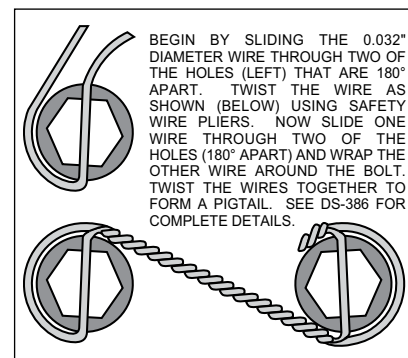

Figure 3. Safety Wire Diagram
- The caliper mount bracket assembly (1) should be installed first with clean, dry threads on the mounting bolts. Install the bracket (1) on the inboard side of the hub by sliding bolt (2) through washer (3). Place two shim washers (4) between the bracket (1) and the mounting ears. The bracket must tighten squarely against the inboard side of the caliper mounting ears on the upright. Inspect for interference from casting irregularities, machining ridges, burrs, etc. Later, after the caliper, pad, and rotor alignment has been checked, and any necessary shims have been put in place, the mounting bolts should be coated with red *Loctite*® 271 and torqued to 47 ft-lbs.
- With the larger I.D. side of the rotor (6) facing away from the hat (7), bolt rotor (6) to hat (7) through the backside of the rotor using washers (8) and bolts (9). Apply red *Loctite*® 271 to the bolt threads and torque to 140 **in-lb** using a criss-cross pattern. For an added measure of security, the bolts may be safety wired using standard 0.032 inch diameter stainless steel safety wire as shown in Figure 3. Please refer to Wilwood's data sheet DS-386 (available at www.wilwood.com/Pdf/DataSheets/ds386.pdf) for complete safety wire installation instructions.